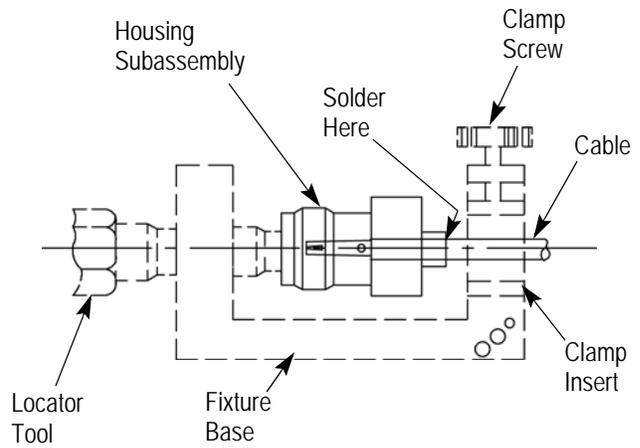

Figure 4
9. Clamp the fixture base vertically in the vise. Place the cable in the clamp insert and the housing subassembly in the fixture base as shown in Figure 4. Tighten the clamp screw to secure the cable. Tighten the locator tool to seat the housing subassembly firmly against the cable.
10. Using solder made of 60% tin and 40% lead, join the housing subassembly to the cable at the location shown in Figure 4.